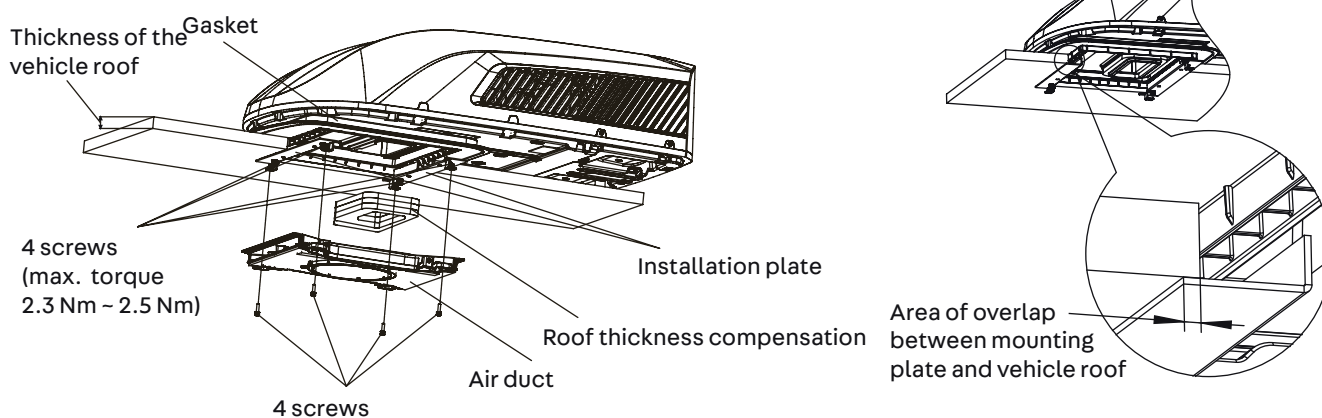

Figure 5
3. Next, place the external unit on the roof of the vehicle and align it with the openings on the vehicle roof. Use 2 mounting plate assemblies and 4 screws to mount the external unit. To install the assembly plate sub-assembly, the holes for these 4 long screws must be aligned with the 4 holes on the adapter, and then overlap with the upper straight lines of the lower edge of the two assembly plates on the underside of the vehicle roof (see Figure 5).
6. Install the spacer frame assembly on the air duct assembly. Use 4 screws to fix the air duct assembly on the mounting plate. After connecting the external unit to the internal unit, check whether the spacer frame assembly has come loose (see Fig. 5).